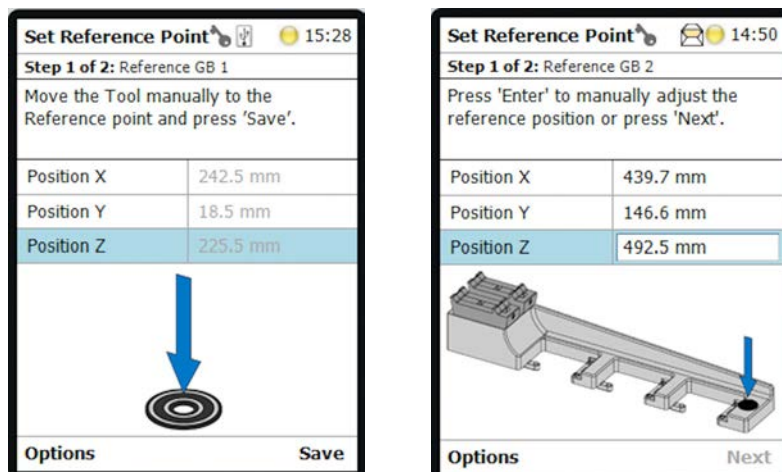

Figure 5-25. Reference point for referencing the TriPlus RSH for GasBench - Adv (left) and the TriPlus RSH for GasBench - Std (right)^a
8. Begin with **Set Reference Point**, see Figure 5-25 and Figure 5-26.